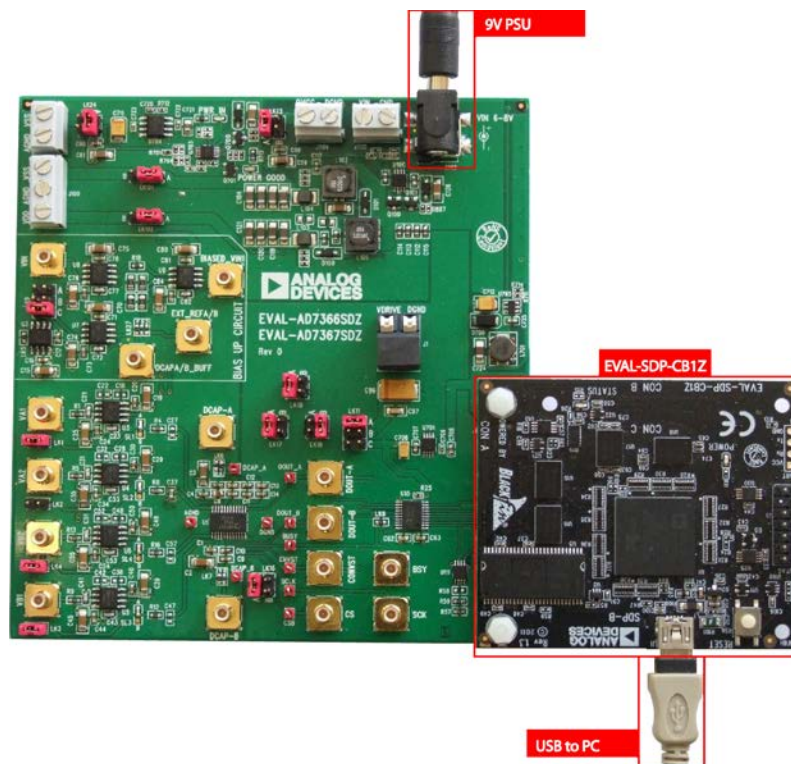

Figure 2. Hardware Configuration—Setting Up the Evaluation Board
2. Connect the EVAL-SDP-CB1Z board to the EVAL-AD7366SDZ/EVAL-AD7367SDZ board as shown in Figure 2.